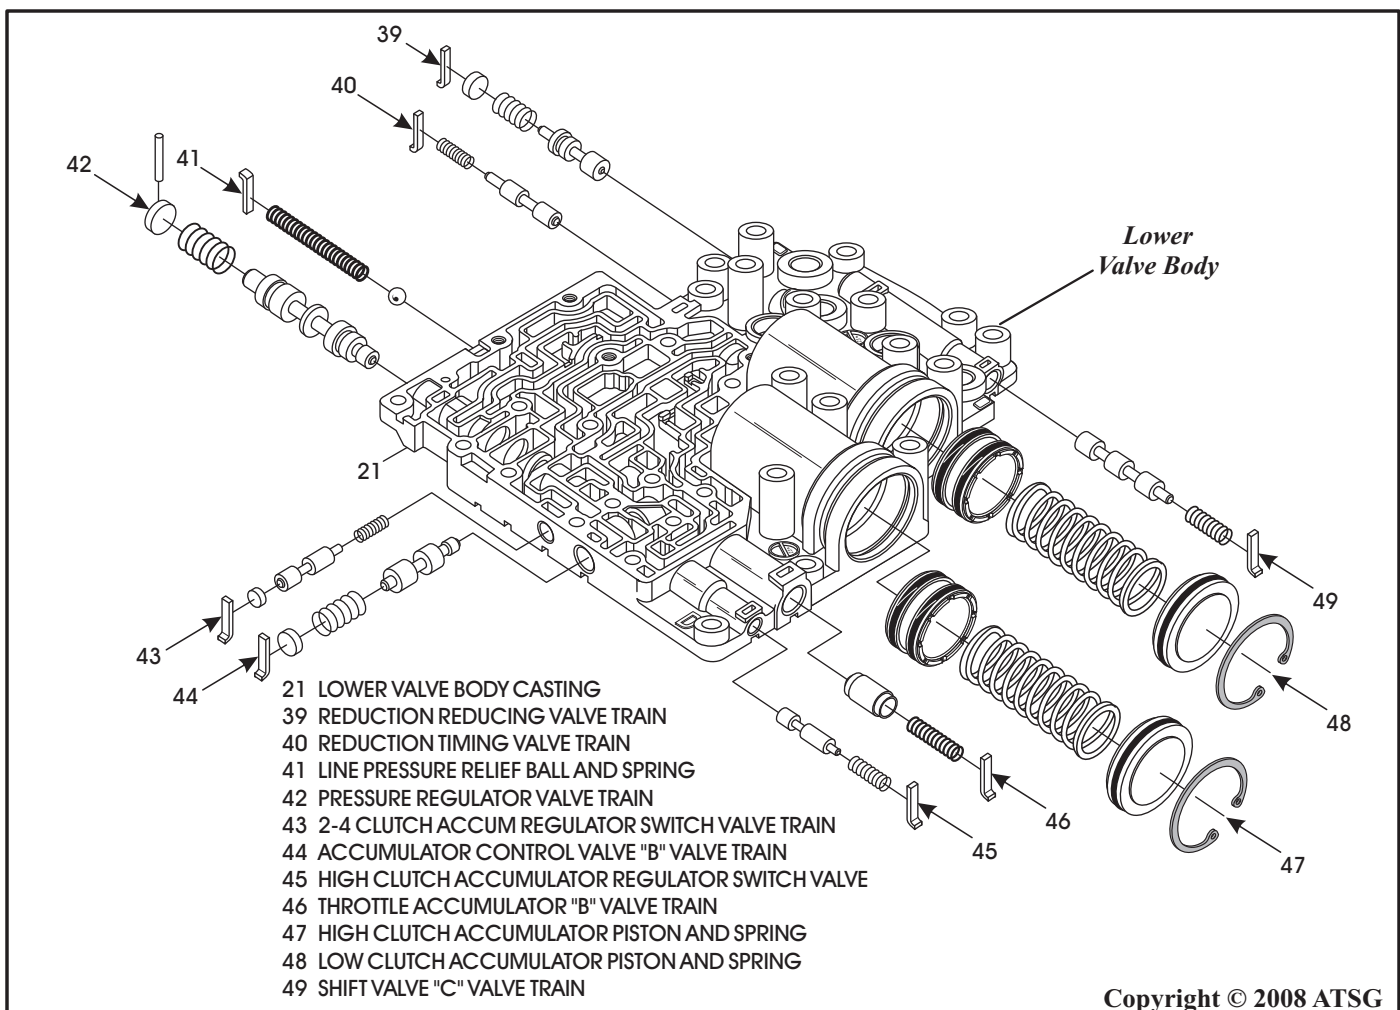

Figure 96
13. Disassemble the lower valve body, as shown in Figure 96, and place the valves, bore plugs and retainers in appropriate trays exactly as they were removed.
15. Assemble lower valve body parts **exactly** as they are shown in Figure 96, and lube with ATF as they are installed.
Note: Install the retainers exactly as shown in Figure 96, as they install in different directions through out the valve body.
17. Lubricate both pistons and seals with a small amount of ATF and install them into the bores, as shown in Figure 96.
19. Install both high and low clutch accumulator springs, that were previously labeled, in their proper positions as shown in Figure 96.
21. Compress the cover and install the snap ring shown in Figure 96.
23. Compress the cover and install the snap ring shown in Figure 96.